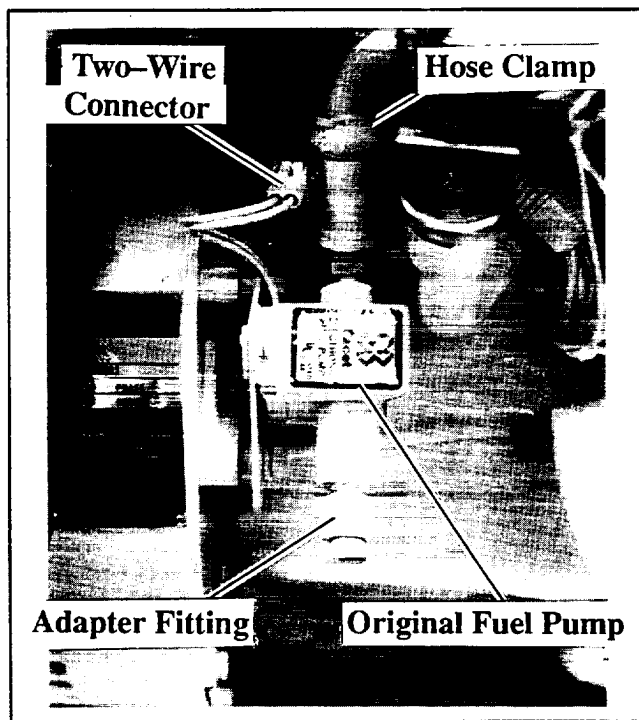

Figure 1. Existing Fuel Pump
3. Locate existing electric fuel pump on generator set and disconnect fuel line on inlet side. See Figure 1. Drain fuel from fuel line/hose in a suitable container to prevent spillage into the bilge.